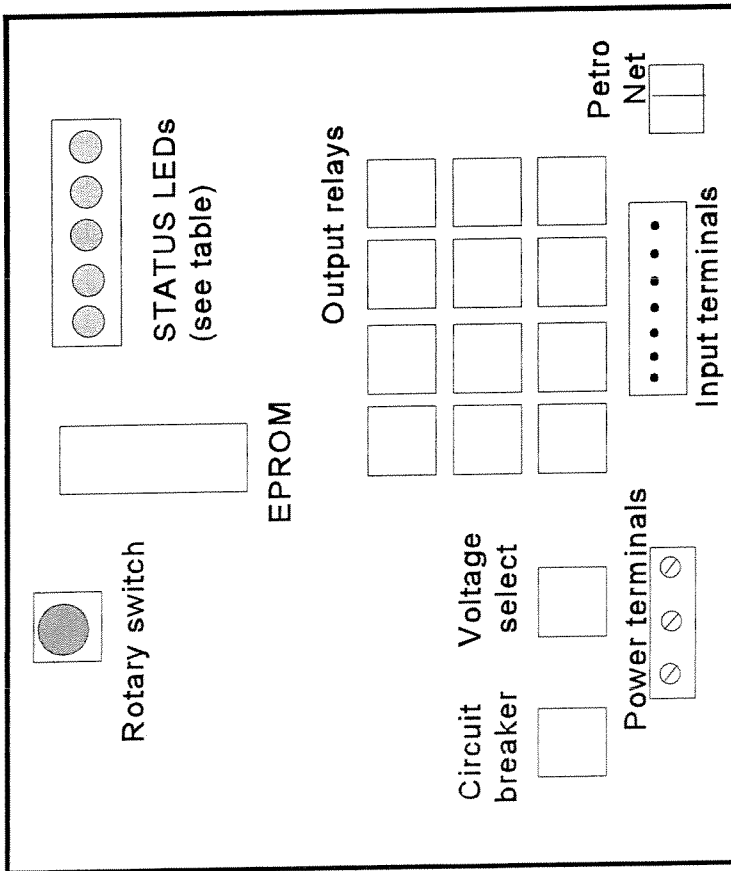

Figure 29 - I/O Module Board Overview
See Figure 29. There are four pairs of pins ("Input Terminals") in each I/O Module for input devices. Pins 2, 4, 6, and 8 are common. Pins 1, 3, 5, and 7 are at 5 VDC potential. Inputs are all optically isolated.
There are 12 output relays (Figure 29) in each I/O Module for output devices. Each relay has three "quick connect" terminals: (1) common, (2) normally open, and (3) normally closed. Female "quick connect" terminals for the device wiring are provided with each I/O Module.